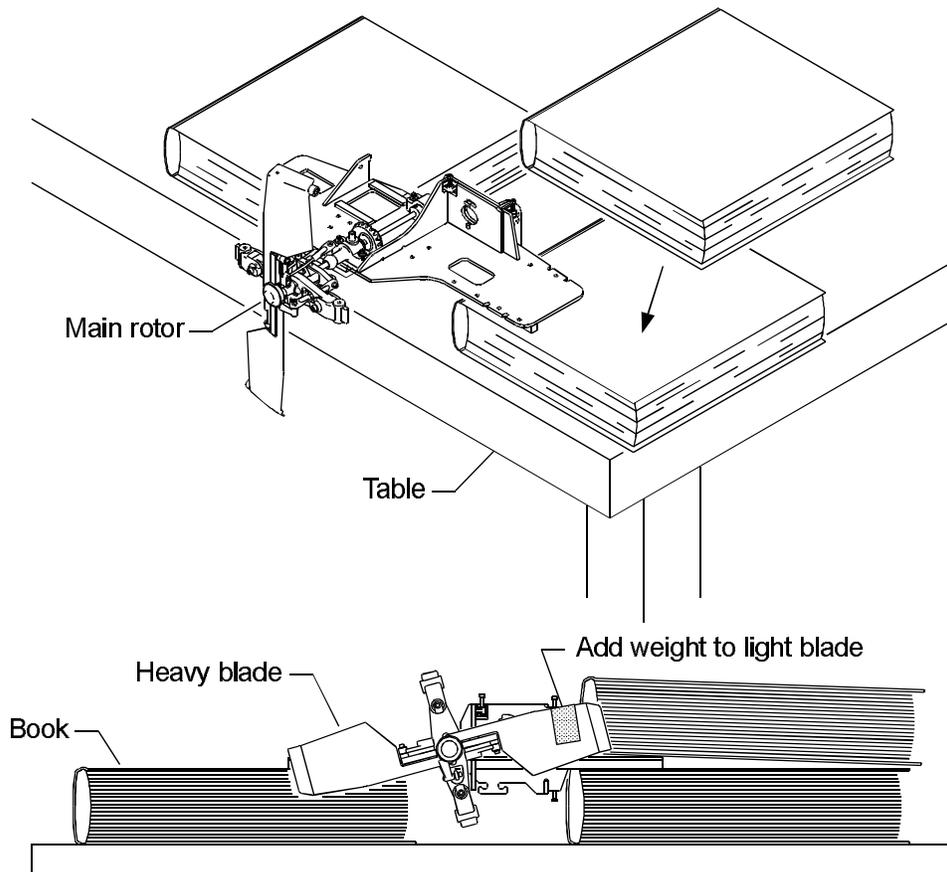

Figure 8-12.
- ❑ 25. Wrap a piece of masking tape around the two mixing arm pushrods to keep them from flopping around, and support the crutch with books as in Fig. 8-12 so the main rotor overhangs the edge of the table and can rotate without hitting anything. The heavy blade of the *Subrotor* stabilizer will swing downward.
- ❑ 26. Wrap a 1-1/2" x 2" (40mm x 50mm) patch of black stick-on plastic trim material lightly around the leading edge of the high (light) blade as shown in Fig. 8-12. Snip off one end of the patch until the *Subrotor* stabilizer rests horizontally. This means that both blades are the same weight. Tap the tip of one blade and wait for it to stop swinging to check that it is actually balanced. When balanced, press the trim patch firmly in place.